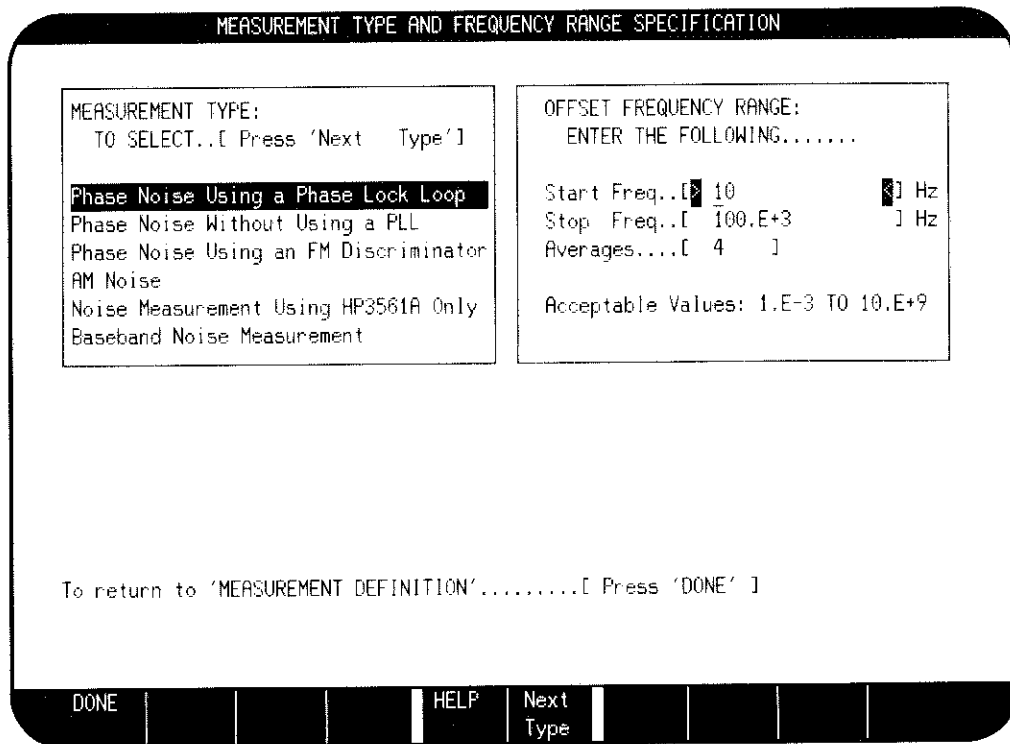

*Figure 3-9. Measurement Definition Menu*
5. On the HP 3048A press the Define Msrmnt softkey to obtain the Measurement Definition menu. Refer to figure 3-9.